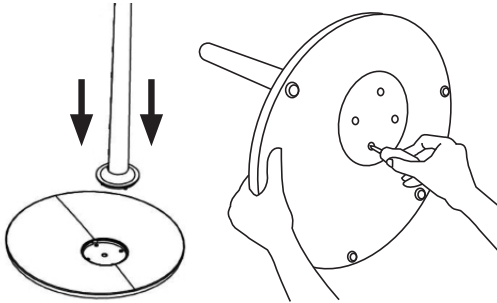

Fig.2
- ◆ Insert the upper stand tube (N) into the lower stand tube (O) by hand near the thread zone and turning it in a clockwise direction (Fig.2).